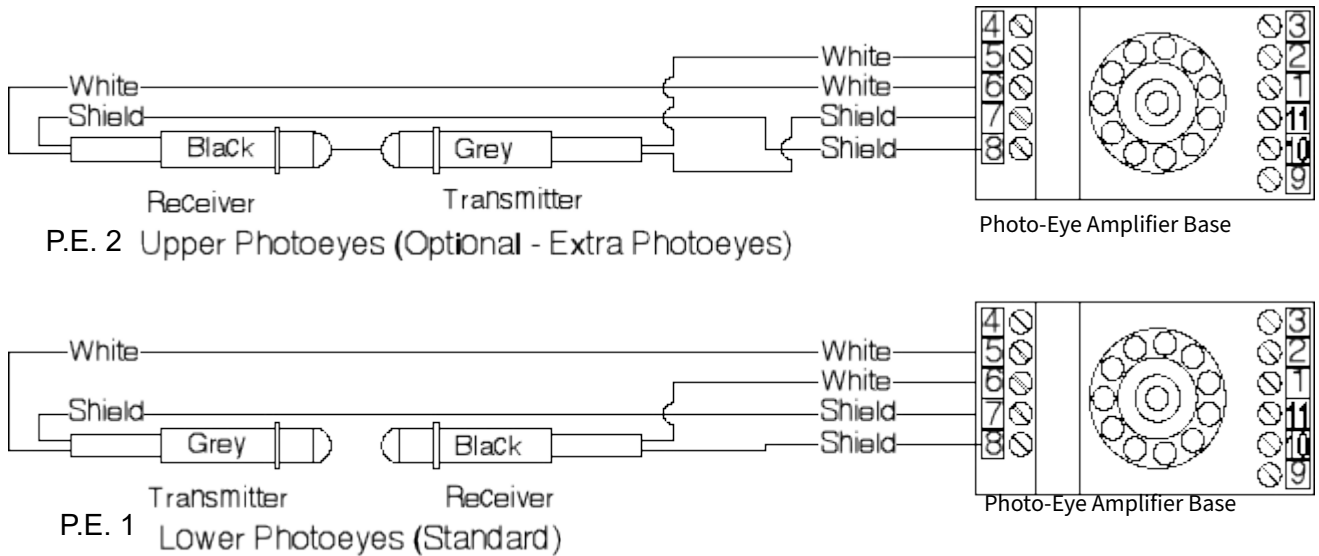

Figure 22: Photoeye Base, Transmitter And Receiver Wiring
1. Connect the photo-eye wiring to the photoeye base. See figure 22.